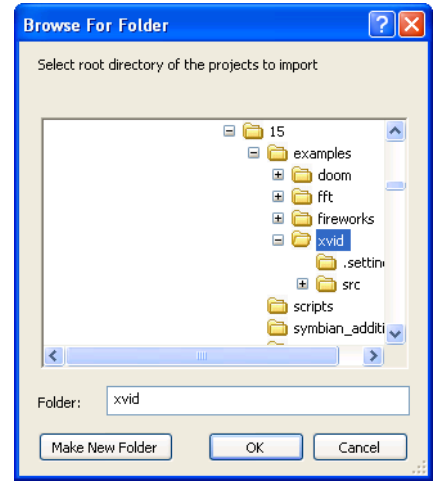

Figure 2-5 The Browse For Folder dialog
5. Use the windows to navigate to the *install_directory\Profiler\Contents\2.1\BuildNumber\examples* directory, as pictured in Figure 2-5 on page 2-7.